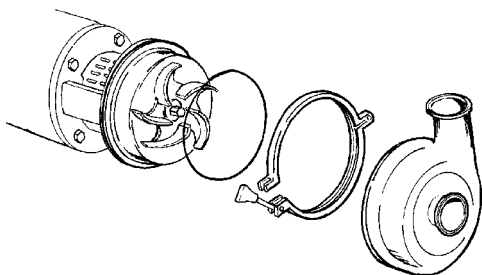

Figure 63 - Install O-ring, Casing And Clamp
B. Set Screw (2)	E. Cap Screws
15. Install O-ring and casing; clamp in place. (Figure 63).